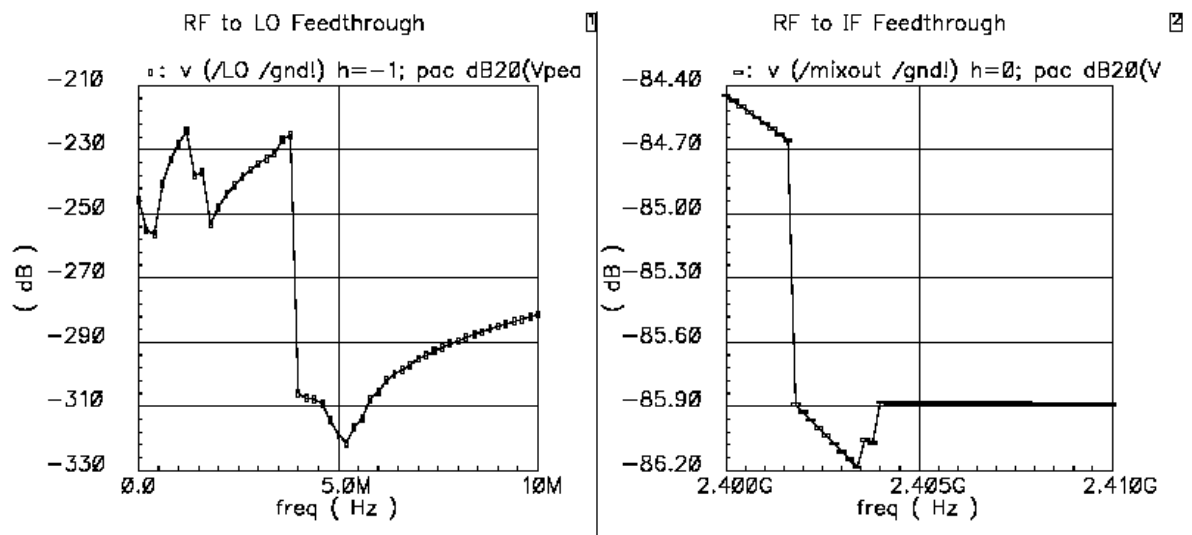

Fig 6: RF-to-LO & IF Feedthrough
- *Select LO port, see the results in Fig 6 (left)*
- *Select IF port, see the results in Fig 6 (right)*